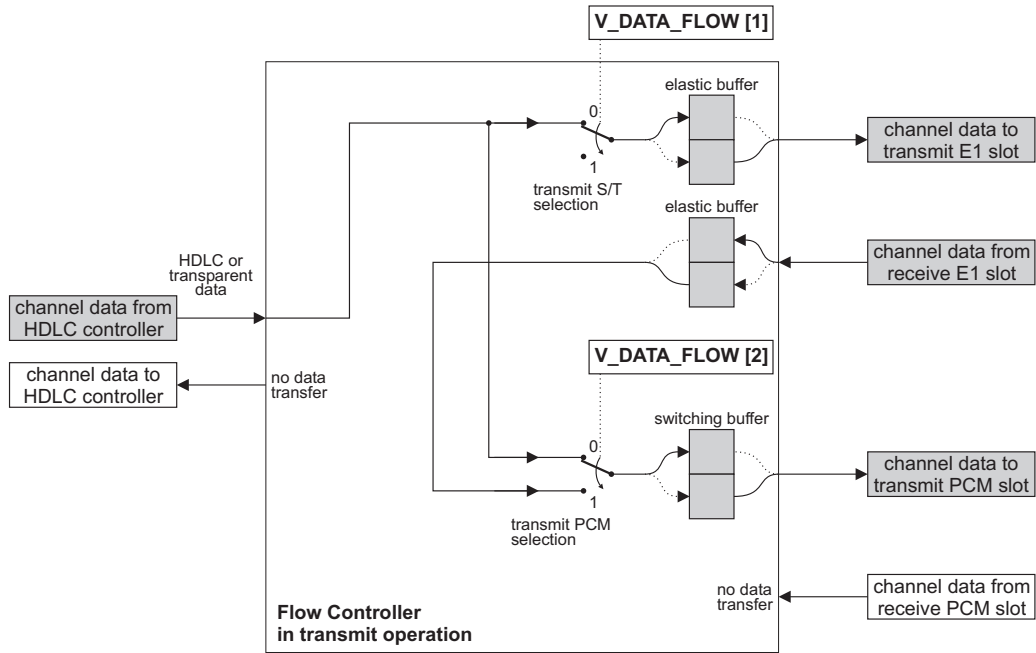

Figure 3.4: The flow controller in transmit operation
In transmit operation one HDLC or transparent byte is read from a FIFO and can be transmitted to the E1 and the PCM interface as shown in Figure 3.4. Furthermore, data can be transmitted from the E1 interface to the PCM interface. From the flow controller point of view, the switches select the source for outgoing data. They are controlled by bitmap `V_DATA_FLOW[2..1]` in register `A_CON_HDLC[n , TX]` where n is a FIFO number. Transmit operation is configured with `V_FIFO_DIR = '0'` in the multi-register `R_FIFO`.
- The PCM interface can transmit a data byte which comes either from the FIFO or from the E1 interface. Bit `V_DATA_FLOW[2]` selects the source for the PCM transmit slot (see Figure 3.4). The receiving E1 time slot has always the same number as the transmitting E1 time slot.